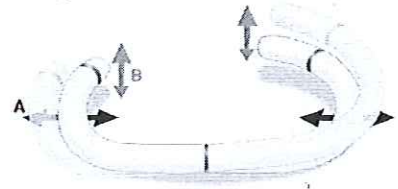

Figure 4
The ring design has a rectangular Nitinol core which enables different flexibilities in-plane (A) and out-of-plane (B) (Figure 4).